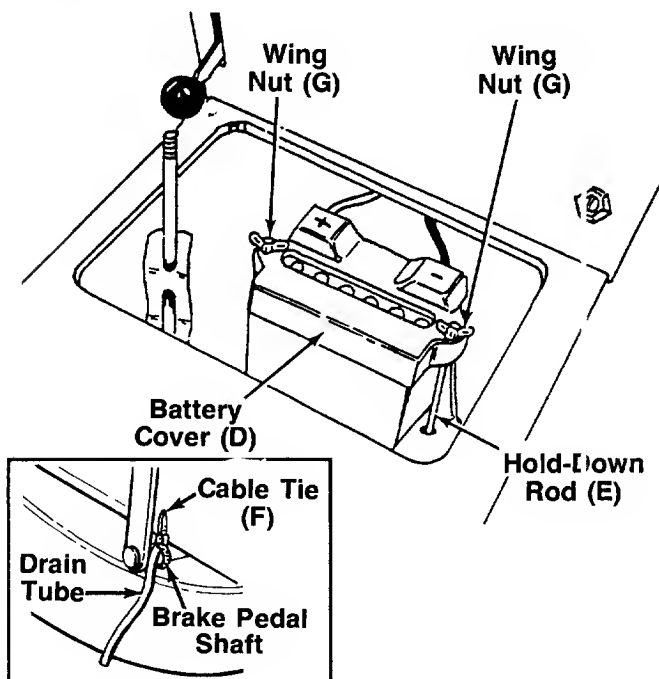

FIGURE 5.
10. Place the battery cover (D) in position over the battery and one hold-down rod. Secure with wing nut (G). Attach other hold-down rod to the other side of battery cover in the same manner. See figure 5.
11. Using cable tie (F), secure battery drain tube to the brake pedal shaft assembly. Cut off excess end. See figure 5, inset.